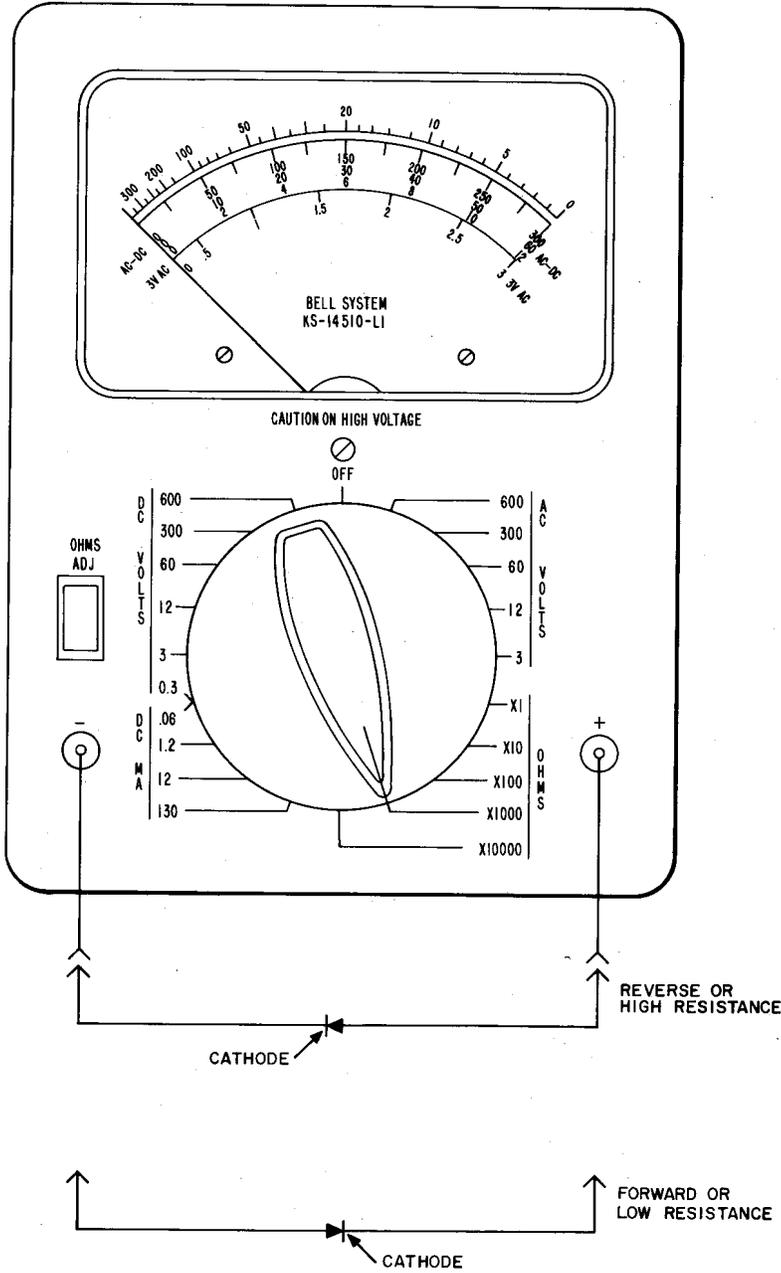

Fig. 10—Diode Test Procedure 2
- (f) Connect the meter leads to the diode as shown in Fig. 10 for the reverse or high
- (g) Reverse the meter leads to the diode as shown in Fig. 10 for the forward or low resistance check. The meter should read 10 or lower on the low end of the resistance scale. (This is a scale reading, not an ohm reading.)